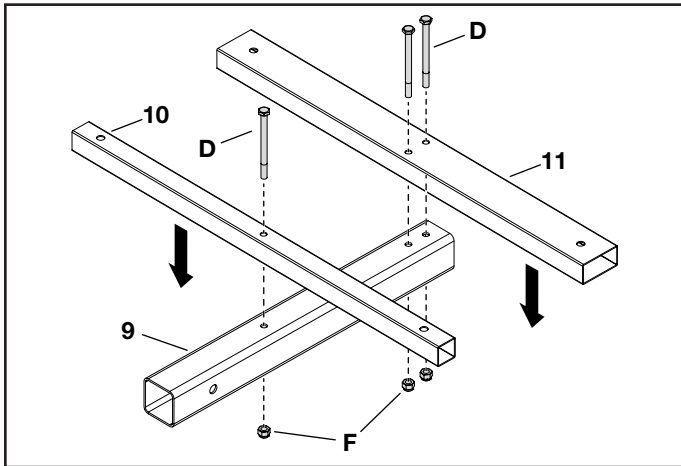

FIGURE 3
STEP 3: (SEE FIGURE 3)
- Attach the tube frame (10) to the receiver hitch frame (9) using a hex bolt (D) and a Nylock hex nut (F). Do not tighten yet.
- Attach the rear tube frame (11) to the receiver hitch frame (9) using two hex bolts (D) and two Nylock hex nuts (F). Do not tighten yet.